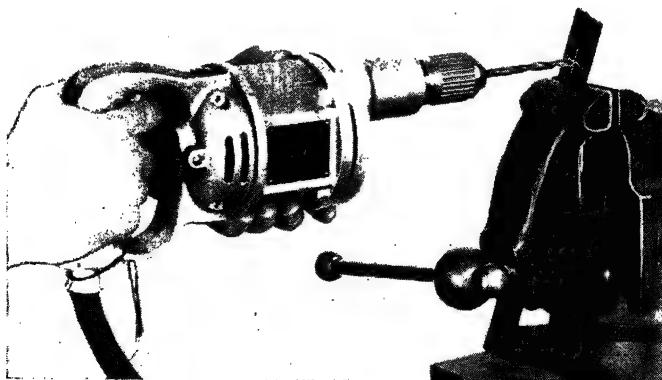
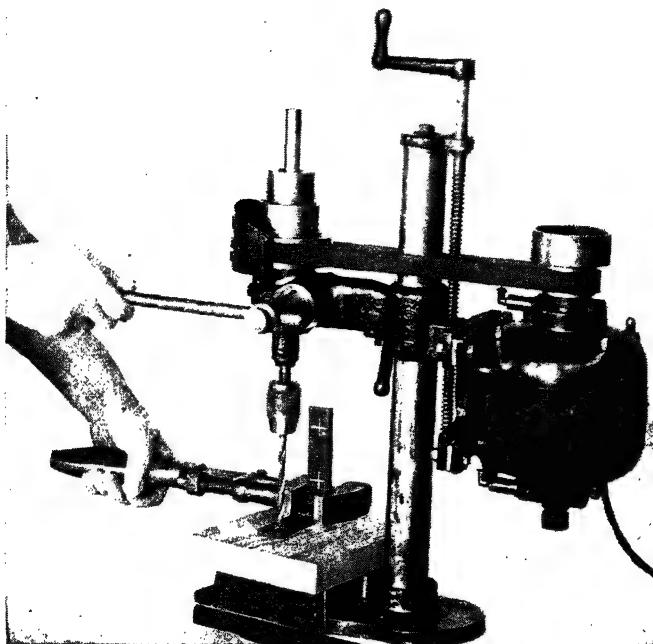
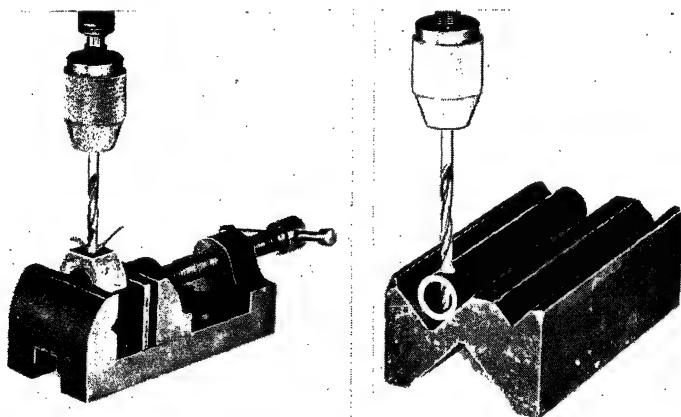

Fig. 78. Drilling with an electric hand drill
Fig. 79. Drilling with an electric bench drill. Do not hold stock in the hands while drilling
Fig. 82. Method of using drill vise and "V" block for holding stock in place while drilling
*Electric Hand Drill*. When available, a portable, electric drill is convenient and rapid. Figure 78 shows a small pistol-grip type, which starts
*Electric Bench Drill.* Convenient new types of electric bench drills are now available. Figure 79 shows such a machine, the drill of which is run by electricity while the feed is operated by hand. Many companies now furnish a stand for converting the portable electric hand drill shown in Figure 78 into a bench drill.
For bench drilling, numerous methods are used to hold the metal. *Do not attempt to hold small pieces in the hands while drilling. Injury may result from such practice.* Small pieces may be held with a monkey wrench, pliers, or some other clamping device (see Fig. 79). A drill vise is a special tool used for this purpose. A portable drill vise that rests on the base of the drill is shown in Figure 82. A "V" block useful for holding round stock is shown in the same figure.